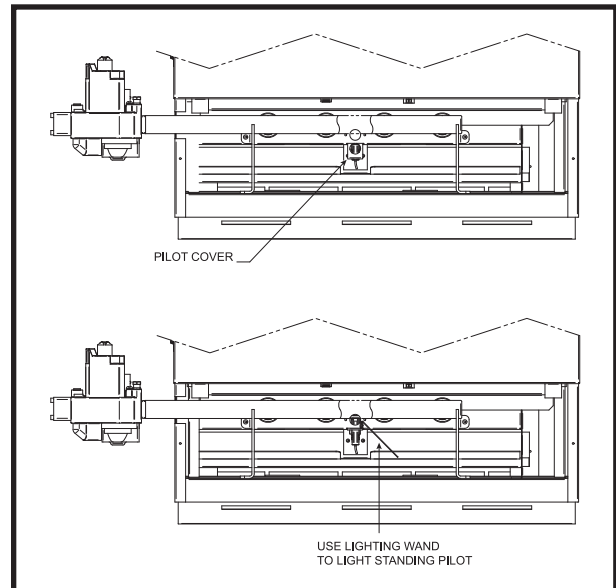

FIG. 35 Lighting Wand
- Use the loop end of the wire lighting wand, shipped with the instruction package, to hold the match and reach the pilot. An access slot is provided in the lower front jacket panel, beside the burner, to insert the lighting wand and match to the pilot. Lift the pilot cover (FIG. 35) to access the pilot. Push down and hold in the red button on the gas valve. This should start gas flow to the pilot. Continue to hold the red button in for about one (1) minute after the pilot is lit. Release the button and it will pop back up. The pilot should remain lit. If the pilot goes out, repeat steps 5 through 10.